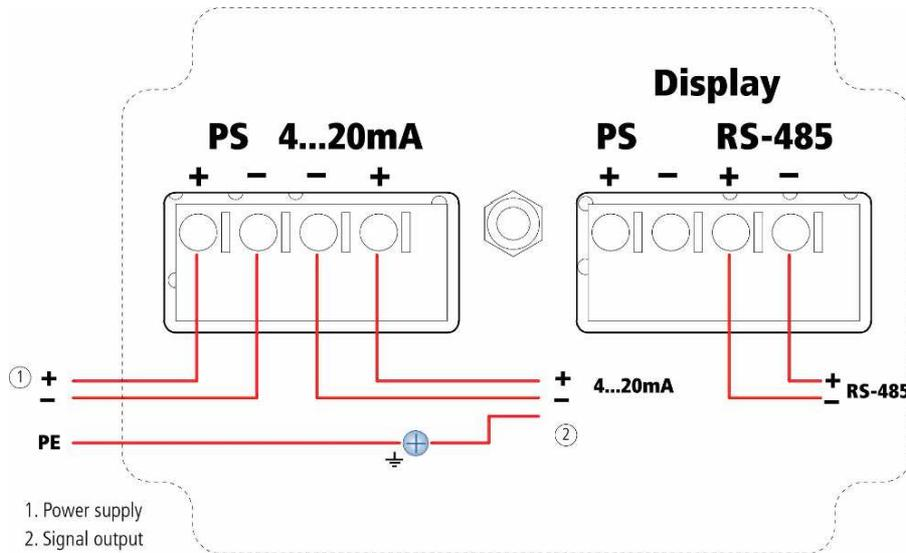

Figure 30 Wiring Plan (4...20 mA/Hart 4-wire/RS485)
6. Insert the wire ends into the open terminals according to the wiring plan (see *Figure 30*), and fasten the terminal screws.